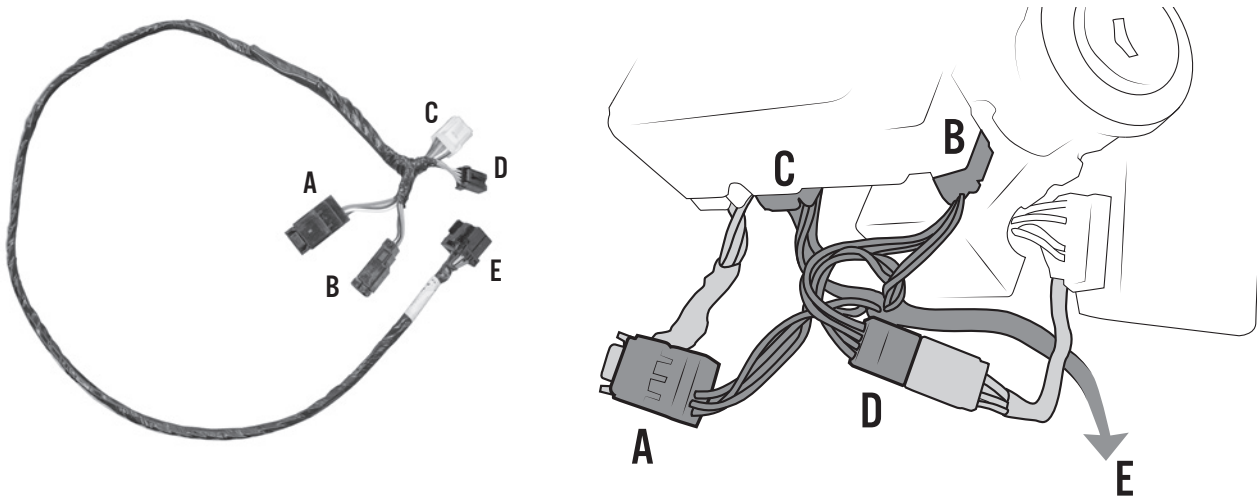

Figure 52
- f. Plug in the AEV harness as shown (fig 52).